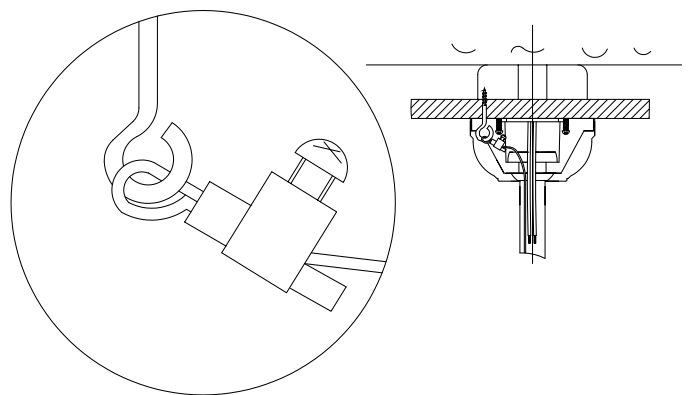

Fig. 6
**Step 2.** Adjust the length of the safety cable to reach the screw and washers by pulling the extra cable through the cable clamp until the overall length is correct, put the end of the cable back through the cable clamp, forming a loop at the end of the cable. Tighten the cable clamp securely. Now, put the loop in the end of the safety cable over the wood screw securely. (Fig. 6)